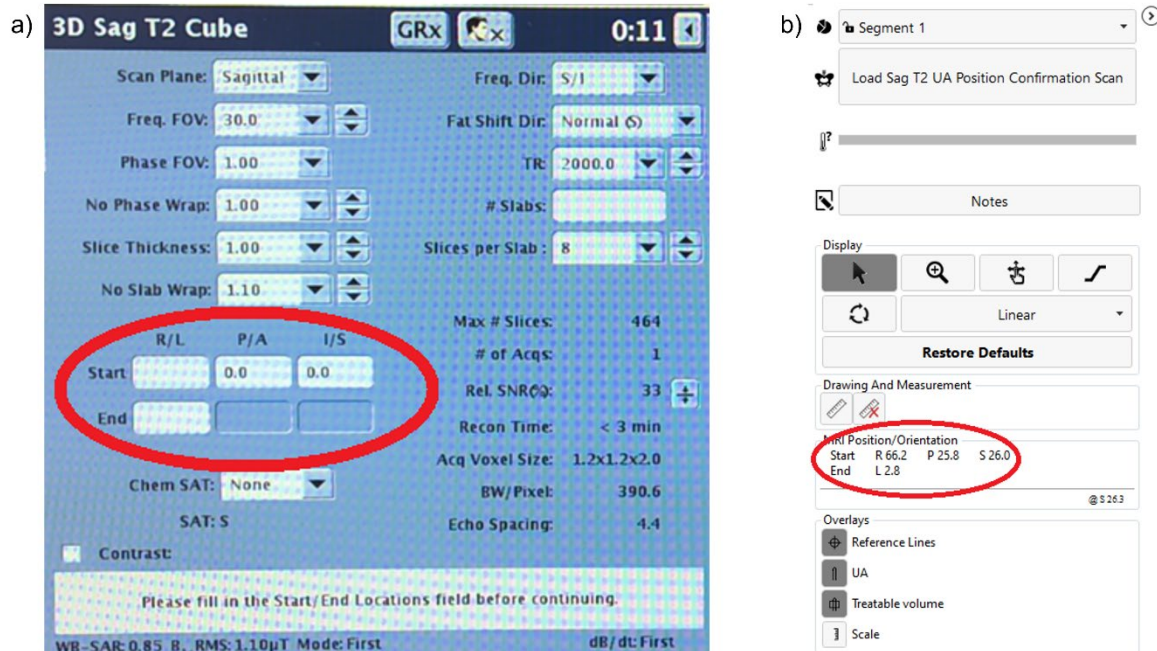

Figure 36. Manually prescribing Start/End Location coordinates for confirmatory SAG T2 scan.
- b. MRI Technologist: For the new SAG T2 scan, manually input the **Start / End Location** coordinates displayed in Coarse Planning on the TDC (Figure 36). Acquire the scan and send it to the TDC.